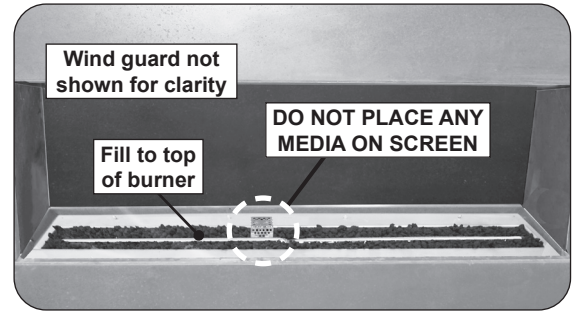
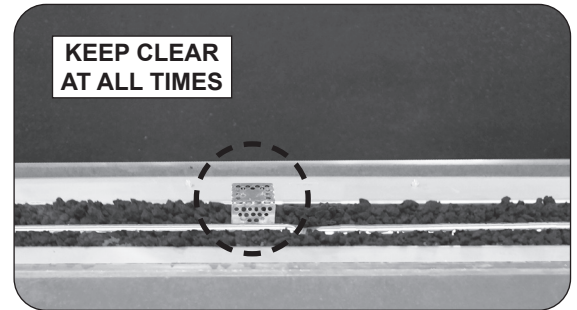

Fig. 33-1 Lava media option
Fig. 33-2 Screen detail
1. Pour the 10 lb bag of lava granules into the burner area (with the exception of the screen). Spread the granules within the burner area as shown in Fig. 33-1 and Fig. 33-2. **Only fill the granules up to the top of the burner tube.**